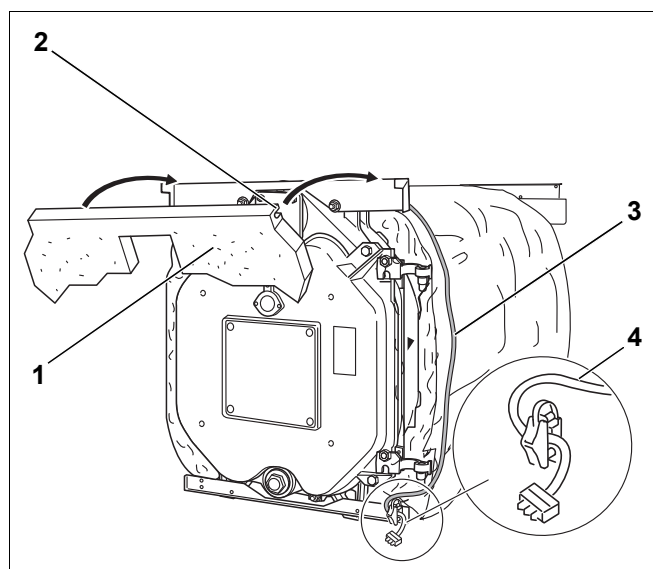

Fig. 34 Installation of the front insulation
- Slide the front insulation (Fig. 34, [1]) with its slot (Fig. 34, [2]) onto the front edge of the upper support bracket.
- Lead the burner cable (Fig. 34, [3]) on top of the thermal insulation down over the side of the boiler block.
- With two screws secure the burner cable and strain relief on the lower cross tie-rod (Fig. 34, [4]).